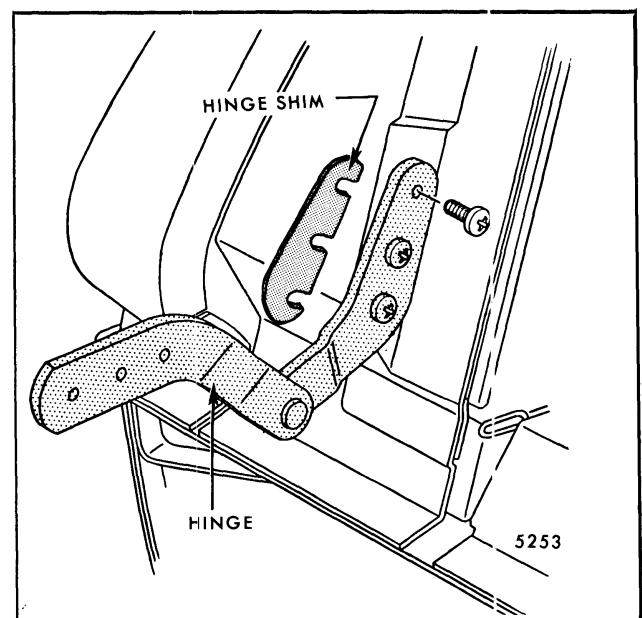

Fig. 7-76-Tail Gate Hinge Assembly
2. Remove tail gate hinge attaching bolts from tail gate and body and remove hinge (Fig. 7-76).
Up-down and fore-aft adjustment is provided at hinge to gate attaching bolts. Side to side adjustment is achieved at hinge to body attaching bolts with spacer(s) (Fig. 7-76). Use spacer(s) provided or substitute with 1/2" inside diameter plated flat washer - 1/16" thick at each hinge attaching bolt location on affected side.